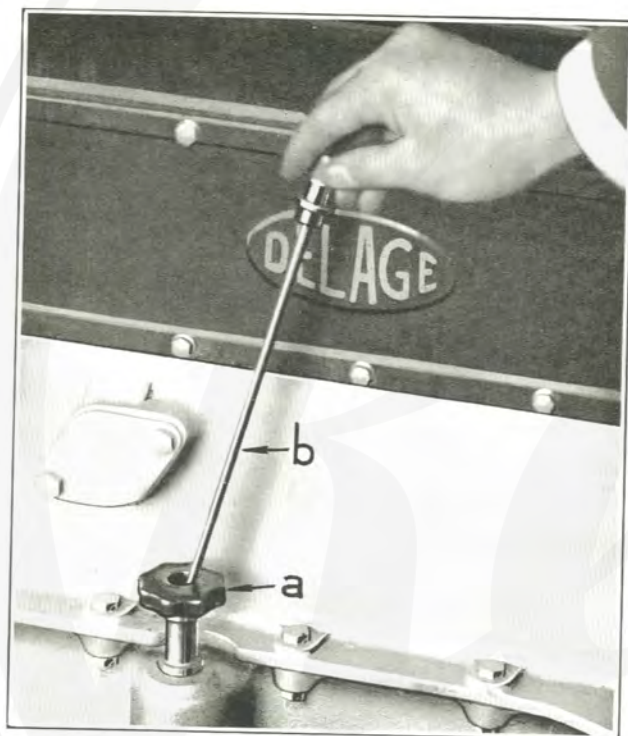

Fig. 5.
2. The dip stick (b) is drawn out vertically (fig. 5). It is held in position by its flexible extremity.
3. The base chamber is emptied by unscrewing the nut (a) (fig. 5).